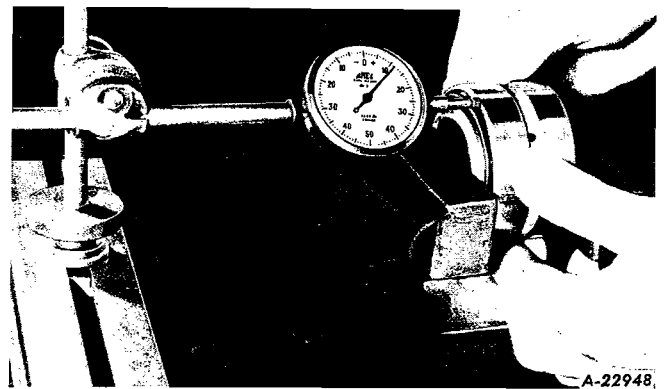

Fig. 31
- a. Place the bearing assembly in a vise and mount an indicator as shown in Fig. 31. First, spin the bearing in order to center the races and then immediately check for end play by moving cup toward the indicator as shown. Two or three checks should be made to definitely establish amount of end play present. End play should be from .005" to .008" and corrections should be made if amount is in excess of .008".